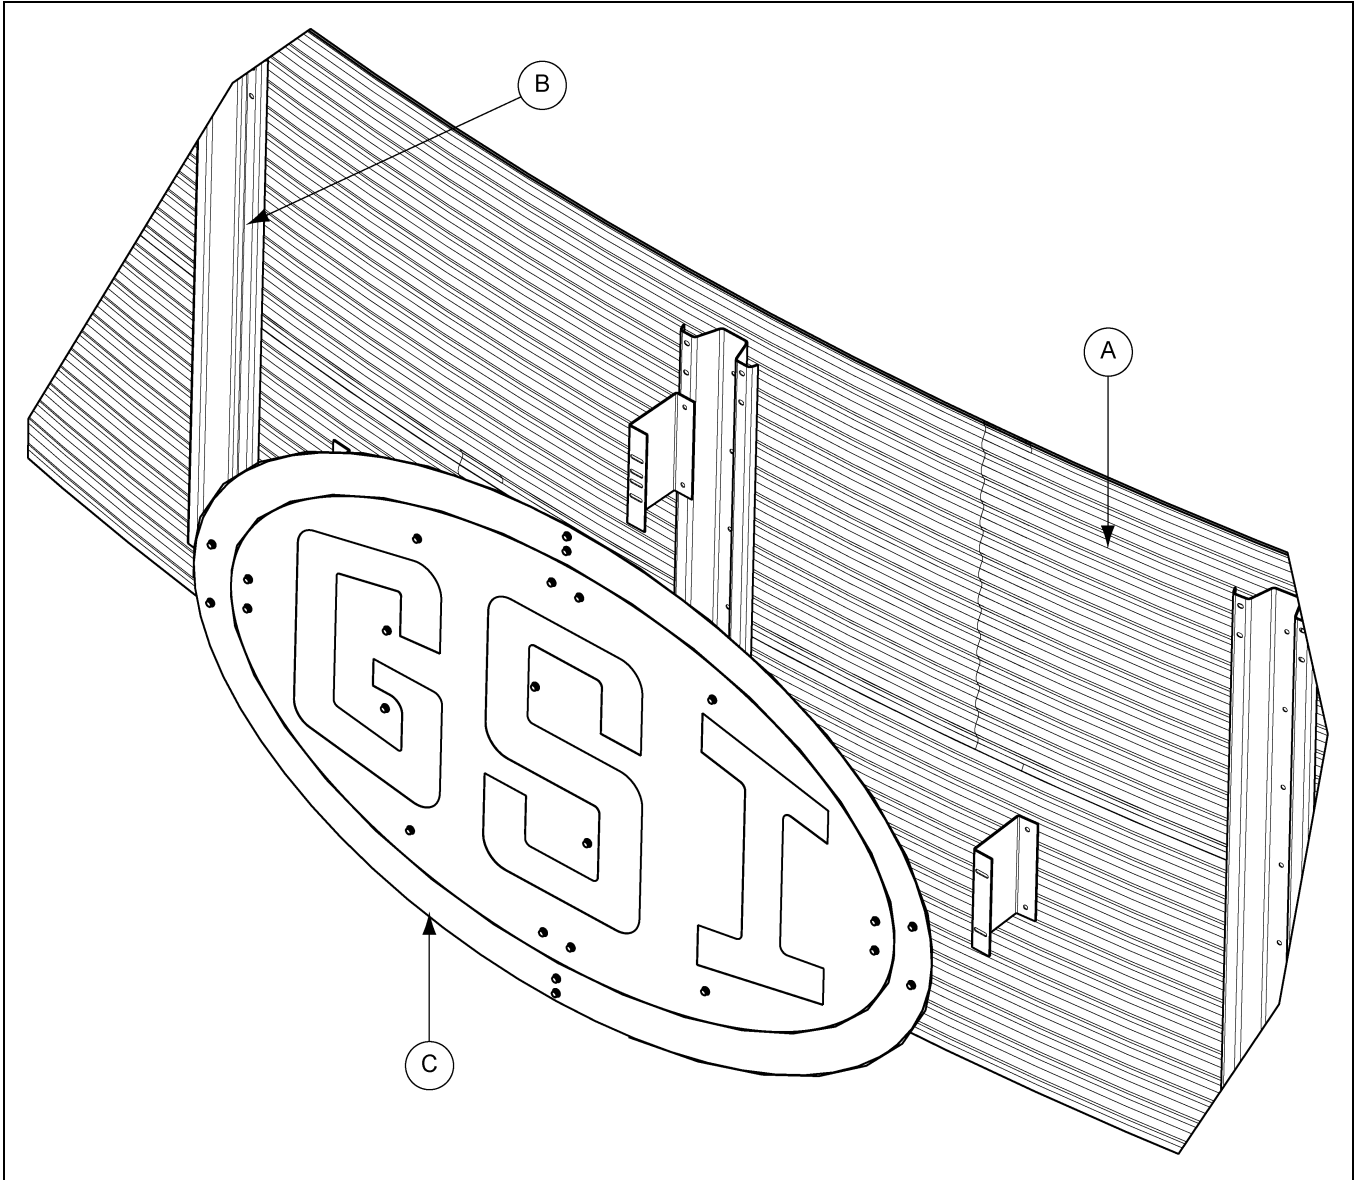

Figure 2 2 Post Sign Stiffener
3. Place additional brackets on the drilled holes of the sidewall. (See Figure 2.)